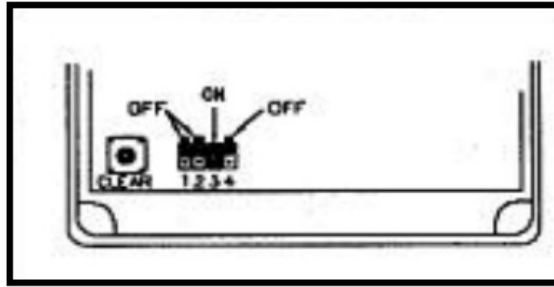

Fig. 2. CLEAR Button and Jumpers.
7. Connect the battery; a chirp will sound. (This ensures that power is properly connected.) Important: Press the small CLEAR button at the lower-left corner of the circuit board (see Fig. 2).
9. Select jumper options (J1- J4) as follows. Refer to Fig. 2. The unit is factory-supplied with the Annunciator option enabled (J3 installed) and a 2-minute Shutdown alarm selected (J4 removed).